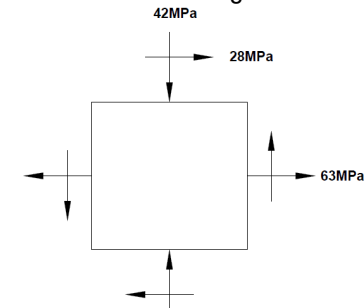

Fig.3
4. For the state of plane stress shown in Fig.3 determine (i) the principal planes (ii) the principal stresses and (iii) the maximum shearing stress and corresponding normal stress.